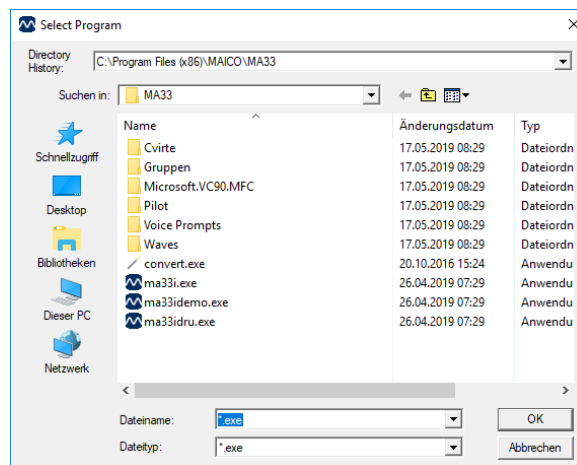

Figure 23
3. The following window will appear. Open the **MA33** folder and select the **MA33i.exe** file for the program that is being added to the database. Click **OK** (Figure 23).